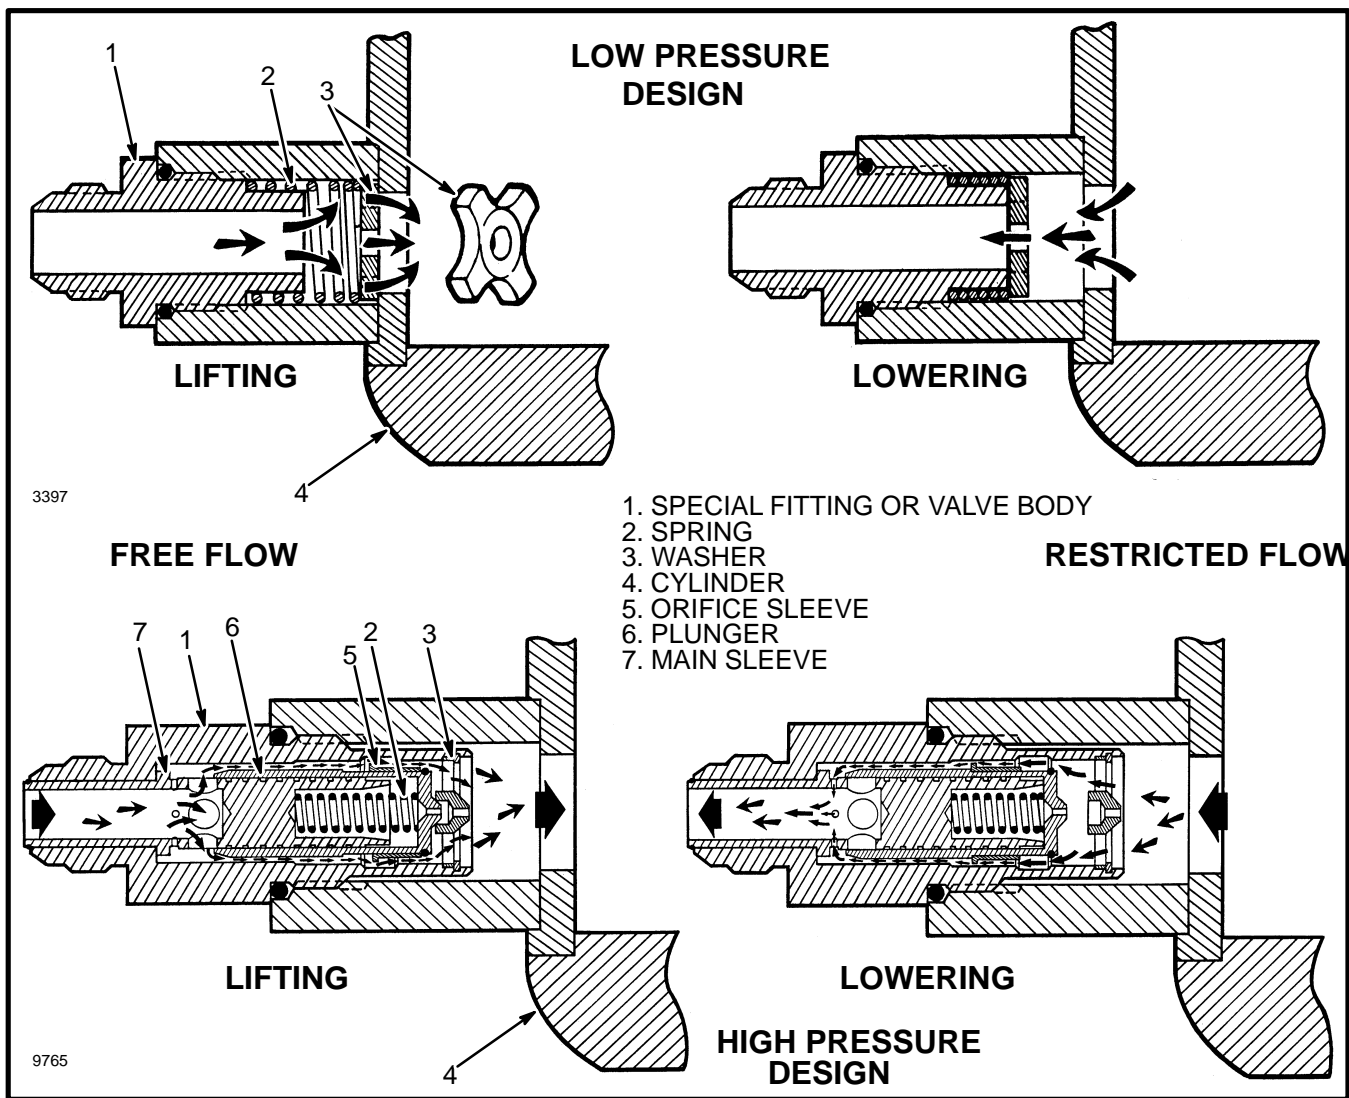

FIGURE 2. LOWERING CONTROL VALVES
A lowering control valve is installed in the inlet port. (See FIGURE 2.) It permits easy entry of hydraulic oil into the cylinder, but gives a restriction when the rod is retracted. This restriction gives limits to the speed that a load on the forks can be lowered.
The most common type of lowering control valve uses these parts: (1) a special fitting for the valve body, (2) a spring and (3) a special washer. There is a variation in the shapes of the special washer. Different lift cylinders use different shapes of special washers. The volume of the hydraulic oil flowing through the inlet port controls the shape of the special washer. (A typical shape of a special washer is shown in FIGURE 2.) When the piston rod is lowered, the oil flow pushes against the special washer and spring. When the oil flow reaches the limit, the special washer is moved against the special fitting. The oil then flows only through the hole in the center of the special washer. This restriction permits the piston rod to lower only at a maximum controlled speed.